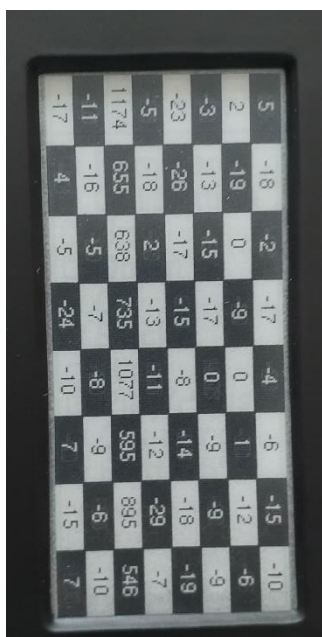

Figure 4: High values of squares with pieces placed
7. When placing a centaur piece on a square the value should increase, a normal value for a square with a piece is between +200 and +1000. Smaller pieces such as pawns have values near +200. Larger pieces such as a king will have values of 800 or higher. An example can be seen in figure 4, on row C pieces have been placed causing high detection values.